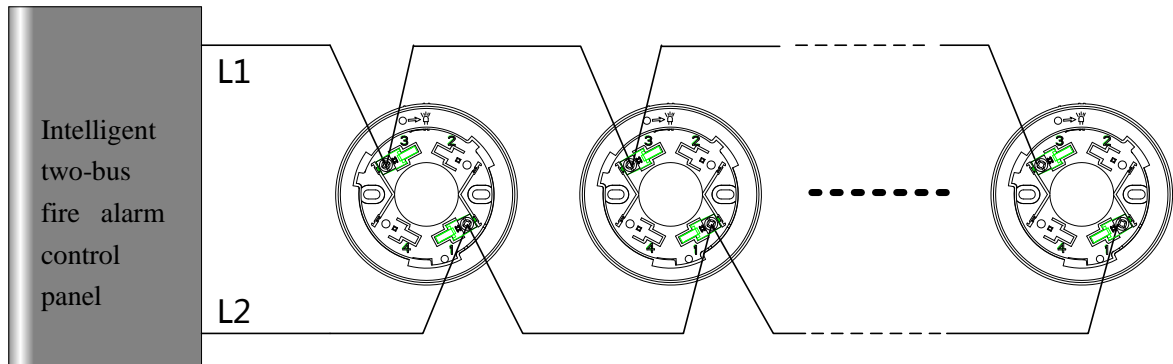

Fig.3
2. Wiring method: The detector is accessed through a compatible fire alarm control panel via a two-wire bus. It uses non-polarity connection. The terminals L1 and L2 of the two-wire bus are connected with the terminals 1 and 3 of the matched mounting base. Fig.3 is a schematic diagram of the connection between multiple detectors with a fire alarm control panel.